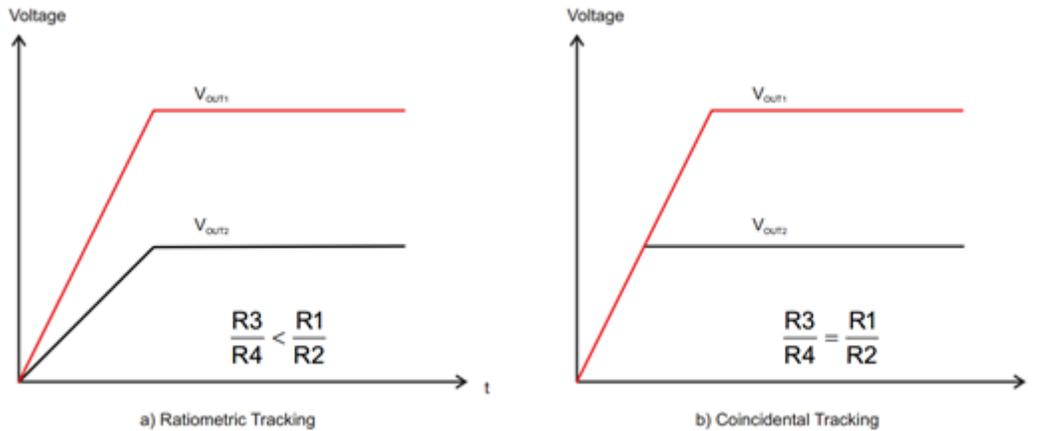

Figure 4. Output-voltage Tracking Possibilities
A SS/TR pin provides a variety of functions, especially for powering field-programmable gate arrays (FPGAs). Connecting a capacitor to the pin controls the output-voltage startup time, which usually must be within a certain range when powering FPGAs. Or you can drive the pin with another system voltage in order to track it – this is sometimes required for FPGAs as well. Figure 4 shows two of these tracking possibilities. Of course, the TPS62097 also has the standard enable (EN) and power good (PG) pins for simple sequencing requirements.